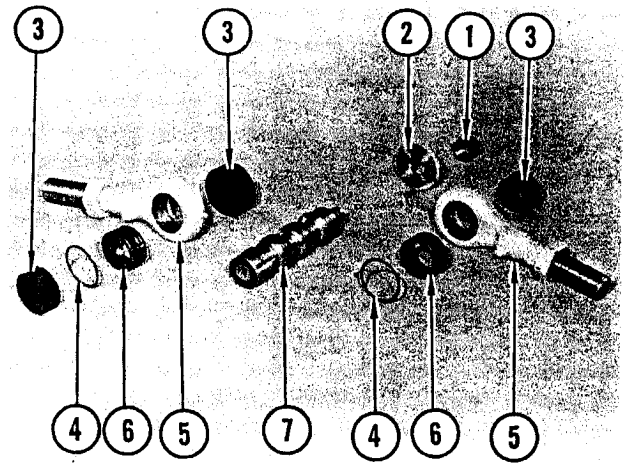

FIGURE 12. EXPLODED VIEW OF BALL SHAFT
Figure 12 shows an exploded view of the ball shaft and tie rod end assembly. Follow the numerical sequence as shown to disassemble. Items (1) slotted nut and (2) flat washer were previously removed.